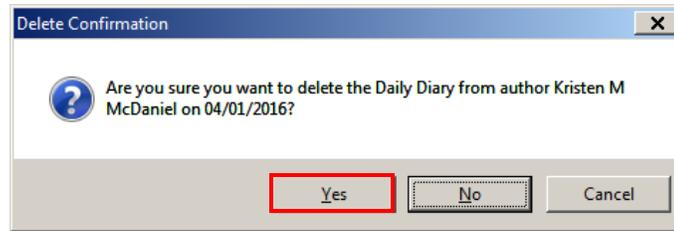

Figure 8-14. Delete Daily Diary Confirmation Window
- Click the **Yes** button on the Delete Confirmation message window (Figure 8-14).